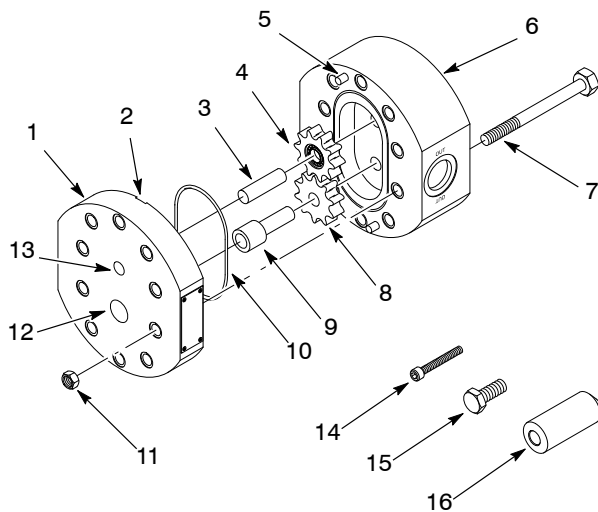

Figure 2 Typical Pressed Shaft Flowmeter
1. See Figure 2. Remove the flowmeter from the system and place it on a clean level workbench.
2. Remove the case nuts (11) and case bolts (7).
3. Insert a flat blade screw driver into the pry slots (2) and separate the front cover (1) from the flowmeter body (6).
5. Remove the case O-ring (10).
1. See Figure 2. Lubricate the threads of the socket head cap screw (14) with grease.
2. Thread the screw into the jack screw hole (13) in the front cover.
3. Push the idler shaft (3) out and discard.
1. See Figure 2. Lubricate the threads of the hex head cap screw (15) with grease.
2. Thread the screw into the jack screw hole (12) in the front cover.
3. Push the shaft (9) out and discard.
1. See Figure 2. Lubricate the end of the new idler shaft (3) to be pressed into the housing with a light film of grease.
1. See Figure 2. Lubricate the large diameter end of the new shaft (9) with grease.
2. Insert the small diameter of the shaft into the aluminum drive bushing (16), so that the aluminum drive bushing bears on the shaft shoulder.
1. See Figure 2. With the magnetic face against the shaft shoulder, slide the magnetic impeller (8) onto the shaft (9).